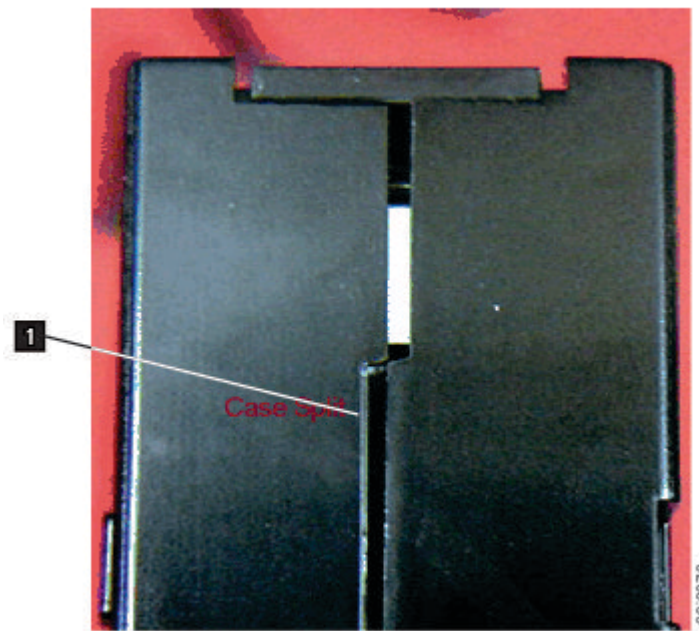

Figure 57. Checking for gaps in the seams of a cartridge
- Inspect the rear of the cartridge (the part that loads first into the tape load compartment) and ensure that there are no gaps in the seam of the cartridge case. If there are gaps in the seam (see Figure 57 on page 76), the leader pin might be dislodged.